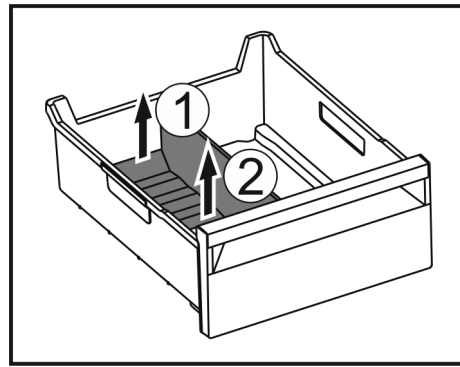

Fig. 74
- ▶ Lift the rear part of the ice compartment divider. Fig. 74 (1)
- ▶ Remove the ice compartment divider upwards. Fig. 74 (2)